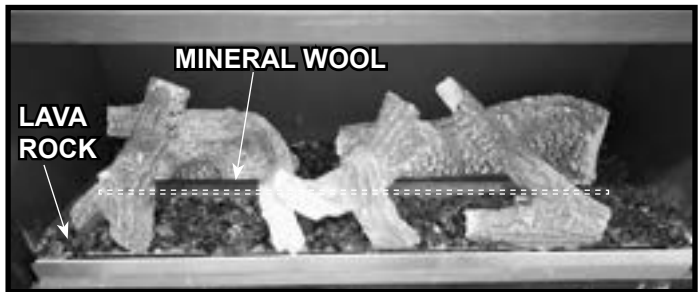

Figure 11. Properly Placed Lava Rock / Location for Mineral Wool
- Place lava rock onto areas of the base pan to fill in around the logs as desired. It is acceptable to completely cover the base pan. DO NOT cover burner, gaps behind burner, air tab, or block the space in front of the pilot assembly. See Figure 3. Place lava rock in a single layer so no sheet metal is showing. Figure 11 shows lava rock properly placed in relation to logs and areas that must be avoided.